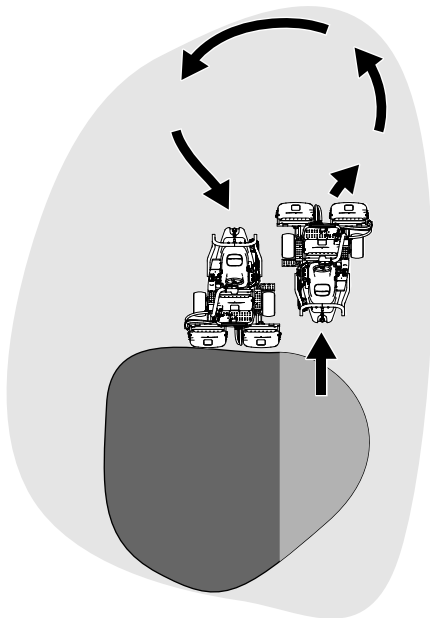

Figure 35
6. To cut down on operating time and to ease the lineup for the next pass, momentarily turn the machine in the opposite direction, then turn it in the direction of the uncut portion. This movement is a tear-shaped turn (Figure 35), which quickly lines the machine up for your next pass.